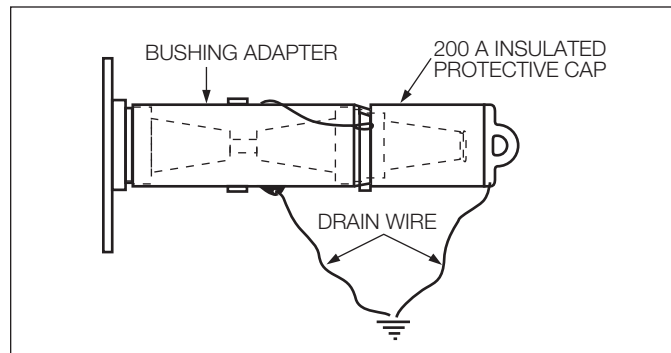

Figure 5.
- Connect apparatus drain wire to common ground point leaving adequate slack for hotstick operation. (Refer to Figure 5.)